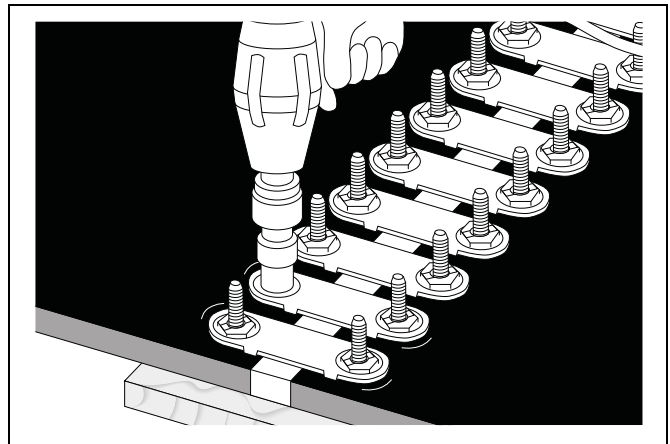

Figure 6P
10. Tighten all nuts uniformly. **NOTE:** A Flexco Power Wrench used with an impact tool will speed this step considerably. (See Figure 6P.)